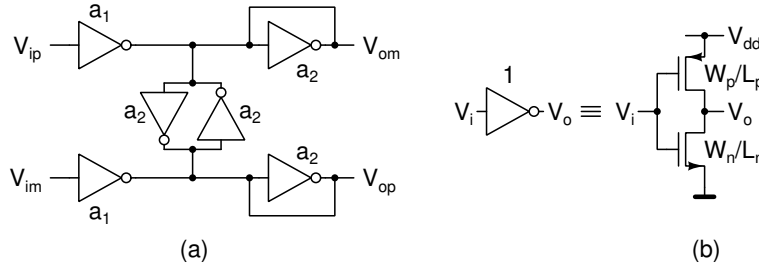

Figure 8.2: Problem 8.2. (a) Differential amplifier using a CMOS inverter, (b) Unit inverter. Numbers shown next to inverters are width-scaling factors.
8.2. Fig. 8.2(a) shows a differential amplifier using CMOS inverters. Inverters are scaled versions of the unit inverter in Fig. 8.2(b). Transistor widths are scaled by the factors shown next to the inverters. $V_{ip,im} = V_{bias} \pm v_{id}/2 + v_{icm}$. $V_{op,om} = V_{bias} \pm v_{od}/2 + v_{ocm}$. V_{bias} is the self-bias voltage of the inverter ($V_i = V_o$).